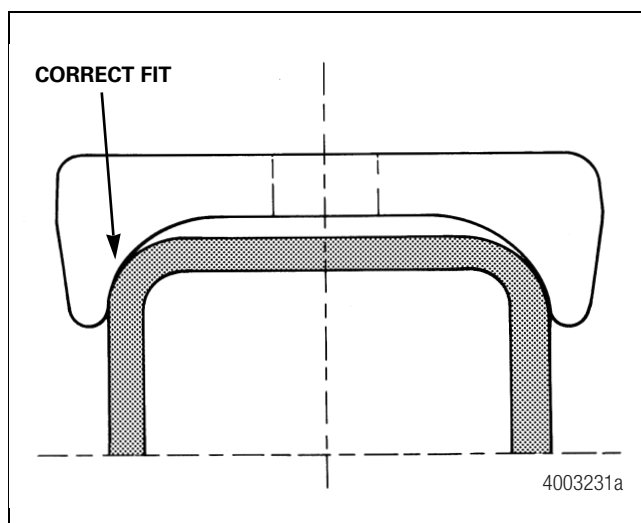

Figure 7.3
- Brackets on rectangular axles should fit the axle so that the point of contact is at the tangent point of the axle radius. Figure 7.3.